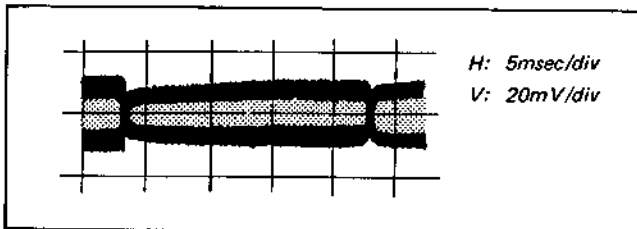

Fig. 4-3-3. RF output level adjustment
- (1) Play back the color bar segment of the alignment tape.
- (2) Connect the oscilloscope to TP5 on the RF-2 board.
- (3) Adjust the TRACKING knob for maximum output. (See Fig. 4-3-3.)